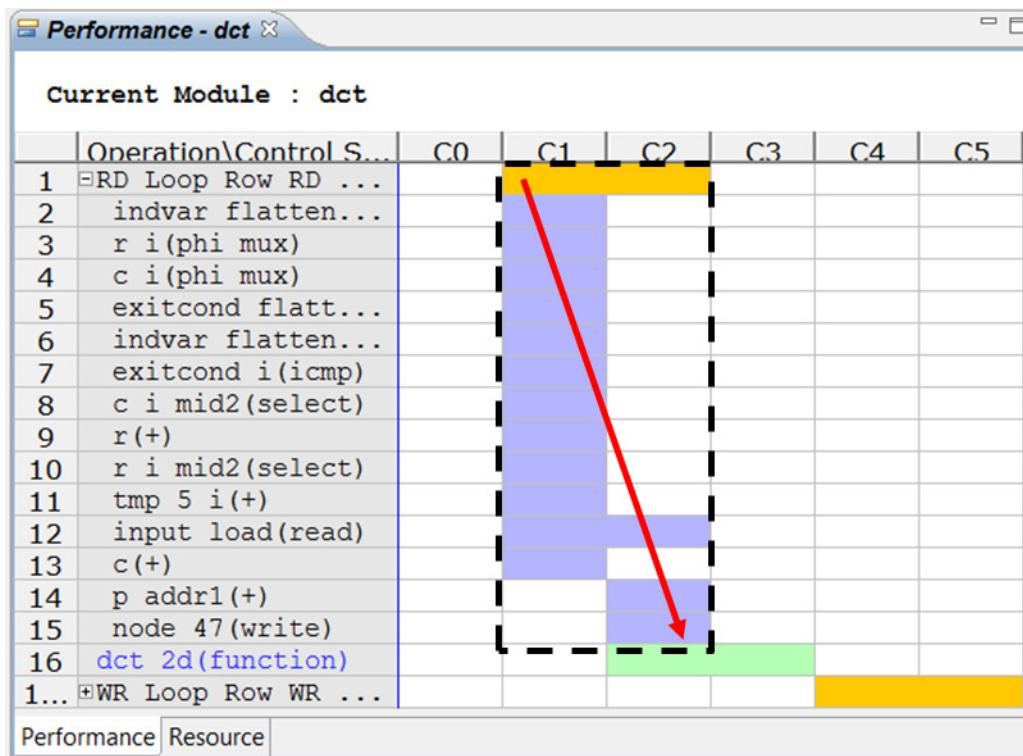

Figure 6-22: Analysis of DCT RD_Loop_Row
11. In the **Performance** view, expand the first loop in the design as shown in Figure 6-22, **RD_Loop_Row_RD_Loop_Col** (these loops were flattened and the name is now a concatenation of both loops).
This loop is implemented in two states. The red arrow in Figure 6-22 shows the path from the start of the loop to the end of the loop: the arrow is almost vertical (everything happens in two clock cycles) and this loop is well implemented in terms of latency.